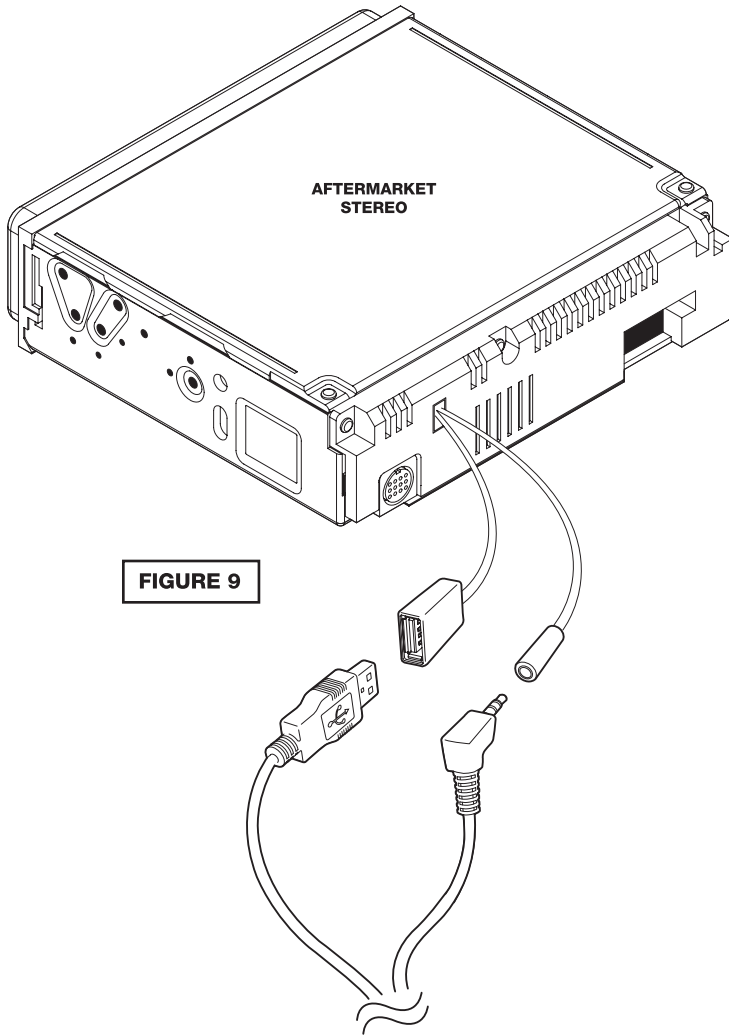

FIGURE 9
1. Connect the USB and 3.5mm cables from the **USBAUXRLK** to the corresponding inputs on the rear of the stereo (Figure 9).